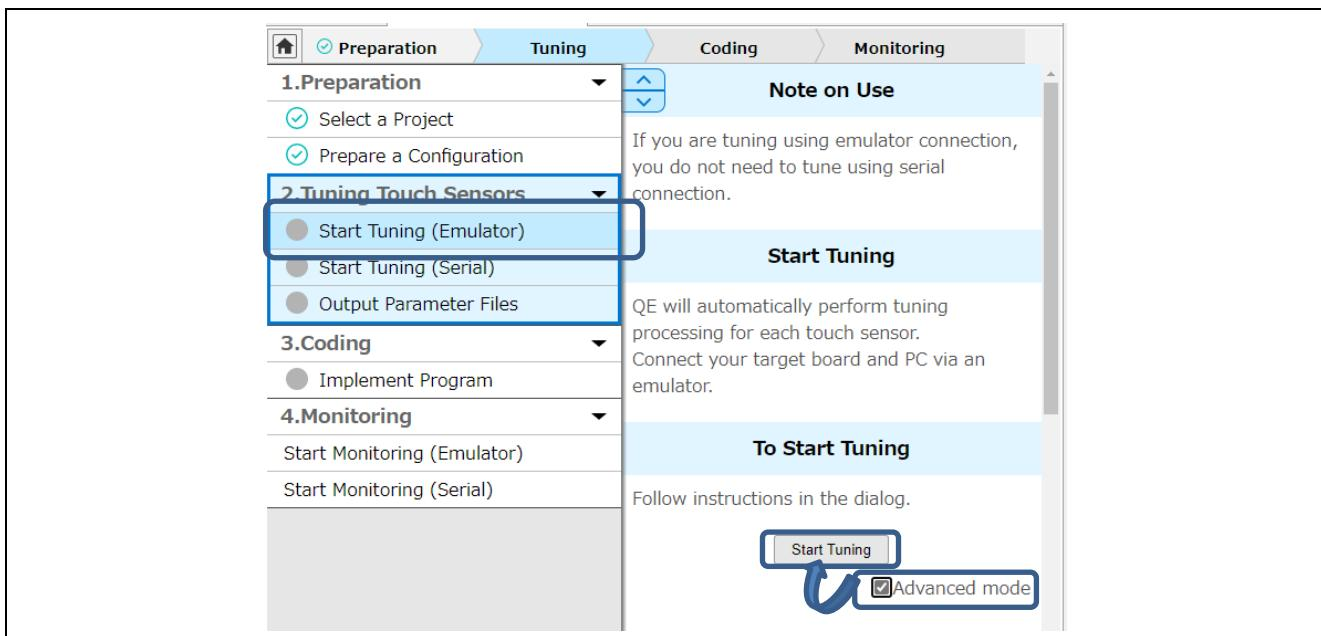

Figure 1-4 Tuning with "Advanced mode"
Figure 1-4 shows the Cap Touch workflow (QE). Tuning can be performed from “2. Tuning Touch Sensors”. Tuning by checking the “Advanced mode” checkbox under “Start Tuning”.